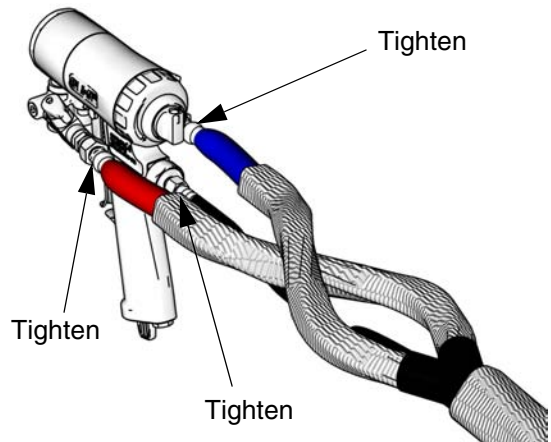
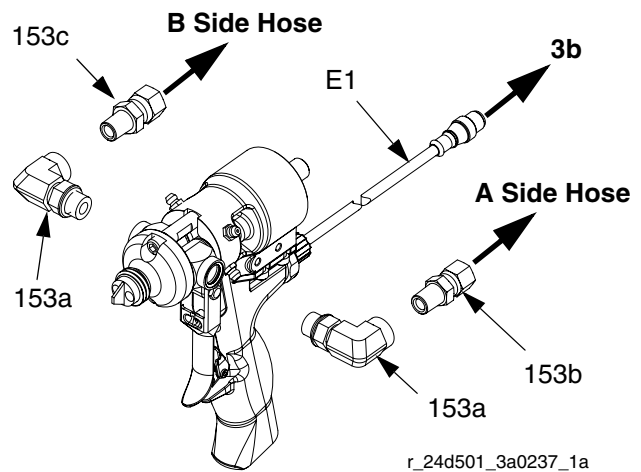

FIG. 1: Fusion Gun
FIG. 2: MD2 Valve Kit 24D501
1. Assemble A and B component hoses to gun or gun manifold fittings as shown in FIG. 1 and FIG. 2.
NOTE: Use chemical connection kit (153) on all MD2 valves. See FIG. 2.